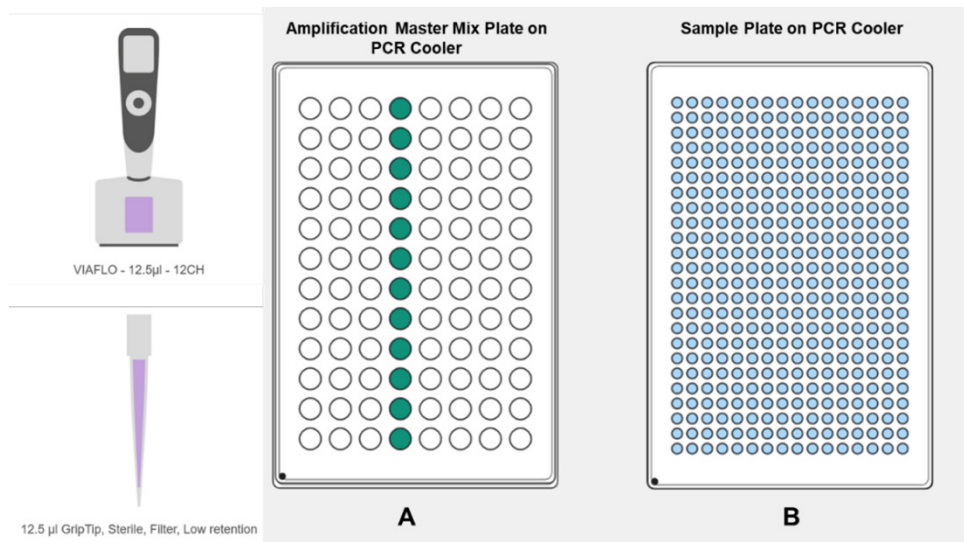

Figure 13: RO384_04A_SEP.
12. Place the **Amplification Master Mix Plate** on the 96-well PCR cooling block in Position A and place the sample plate on the 384-well PCR cooling block in Position B with position A1 of both plates in the bottom left corner, as indicated by the dot in Figure 13.